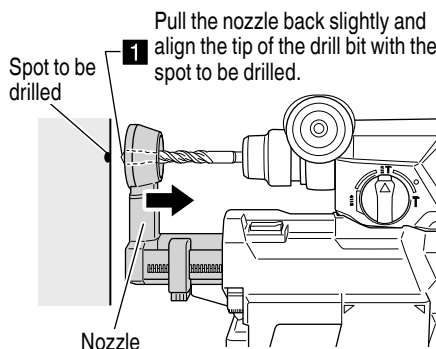

Fig. 10
- (1) Grasp the nozzle with your hand and pull it back slightly, and align the tip of the drill bit with the spot to be drilled. (Fig. 10)